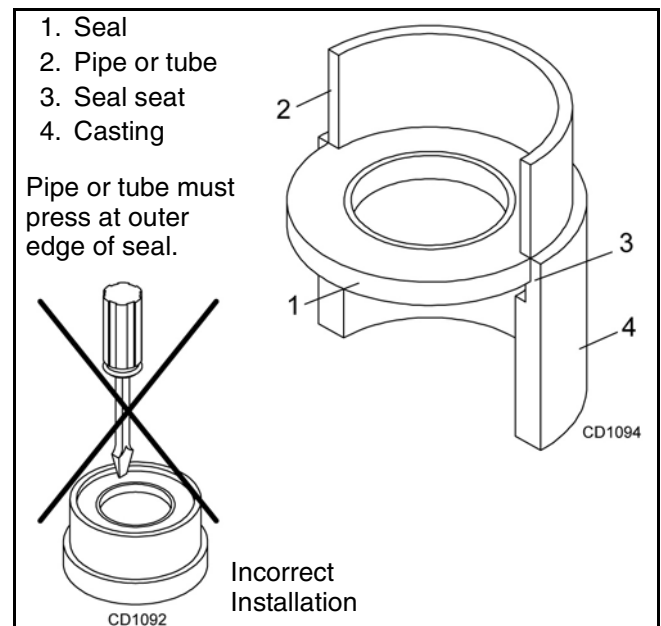

Figure 9. Seal Installation
2. Remove vent plug (27), Figure 9, and siphon gear lube from housing through this opening.
3. If the leak occurred at either end of horizontal shaft, remove oil cap (11) and/or oil seal (1). Replace with new one (see Seal Replacement, page 25).